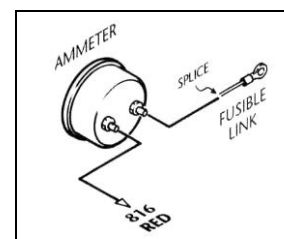

Figure 6.6 Ammeter and fusible link
6.2.6 Connecting an Ammeter and the Fusible Link. See Figure 6.6.